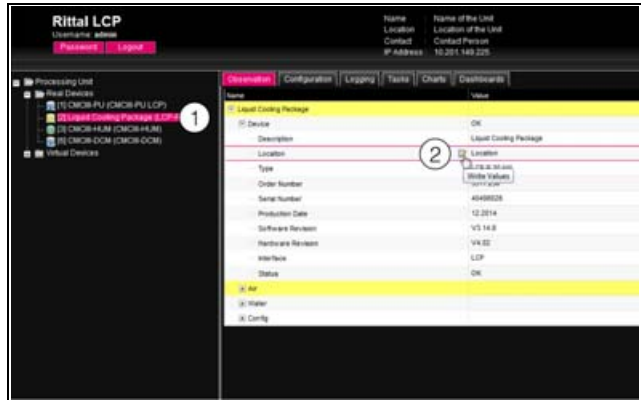

Fig. 78: Selecting an individual parameter
- One after the other, open the "Liquid Cooling Package" and "Device" entries by clicking on the "plus" symbol in front of the entry (fig. 78, item 1).
- Position the mouse pointer at the end of the first column in the "Location" line (fig. 78, item 2).